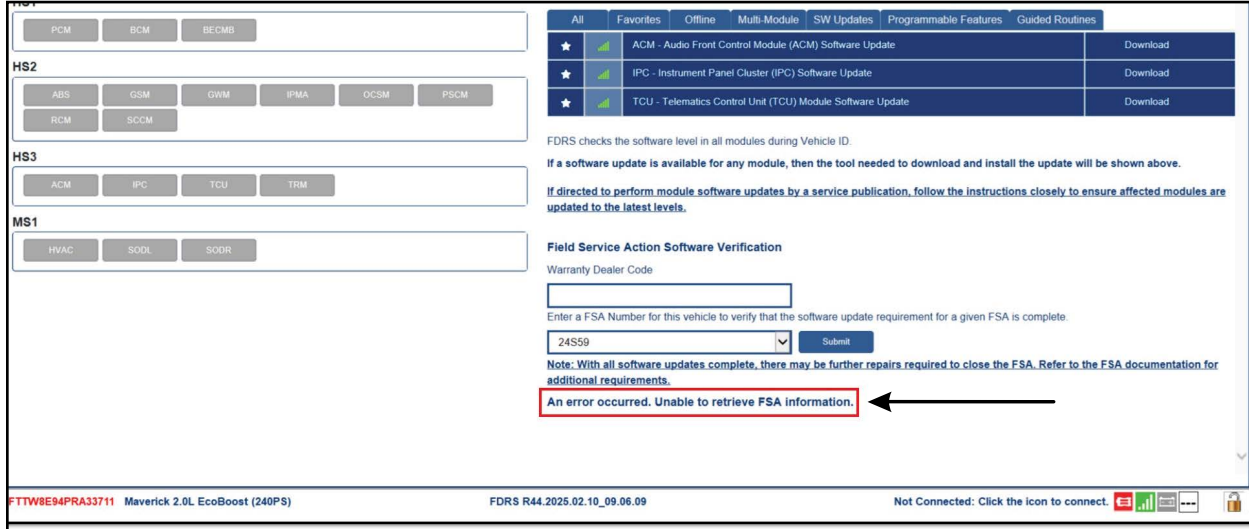

FIGURE 5
25. If the FDRS Field Service Action Software Verification Status displays **"An error occurred. Unable to retrieve FSA information"**, reattempt to generate an SVC. The error is caused by a connectivity or server issue where the status of the FSA cannot be verified. This is resolved upon reattempting to generate an SVC. See Figure 5.